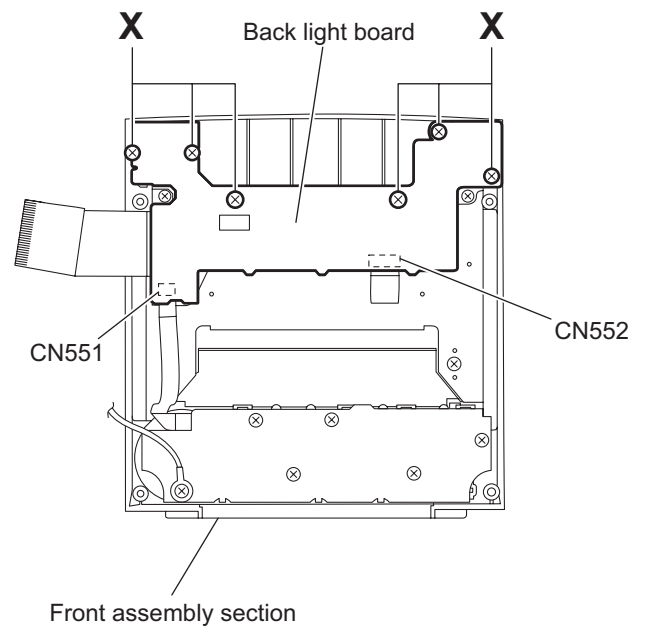

Fig.23
3.2.3 Removing the back light board (See Figs.23)